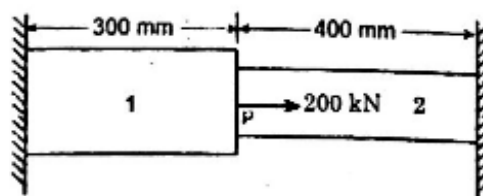

Figure 2
- (c) Consider a bar as shown in figure 2. An axial load of 200 kN is applied at point P. Take  $A_1 = 2400 \text{ mm}^2$ ,  $E_1 = 70 \text{ GPa}$ ,  $A_2 = 600 \text{ mm}^2$  and  $E_2 = 200 \text{ GPa}$ . Calculate the following (i) The nodal displacement (ii) Stresses in each element (iii) Reactions at supports **07**